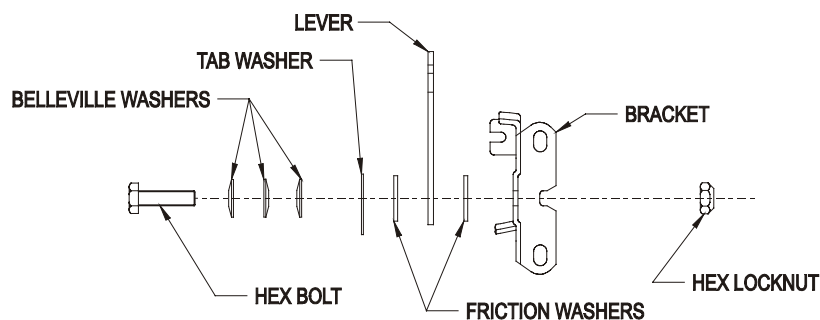

Fig. 9
- Tension in throttle lever can be adjusted by adjusting the tightness of the lever pivot bolt, which is located under the console. See Fig. 9.